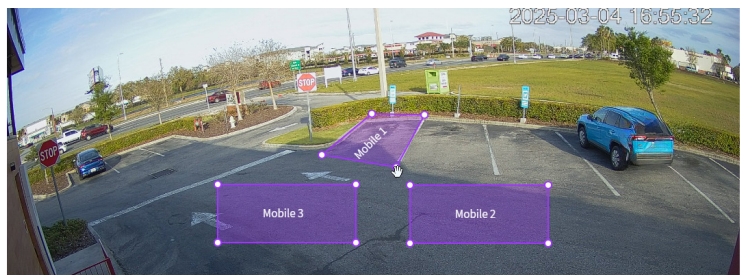

Fig. 5.6
8. The polygon has four adjustable vertices, one on each corner. After moving the box into a parking space, grab any corner vertex and adjust the polygon to match the parking space. See Mobile 1 in Fig. 5.6.